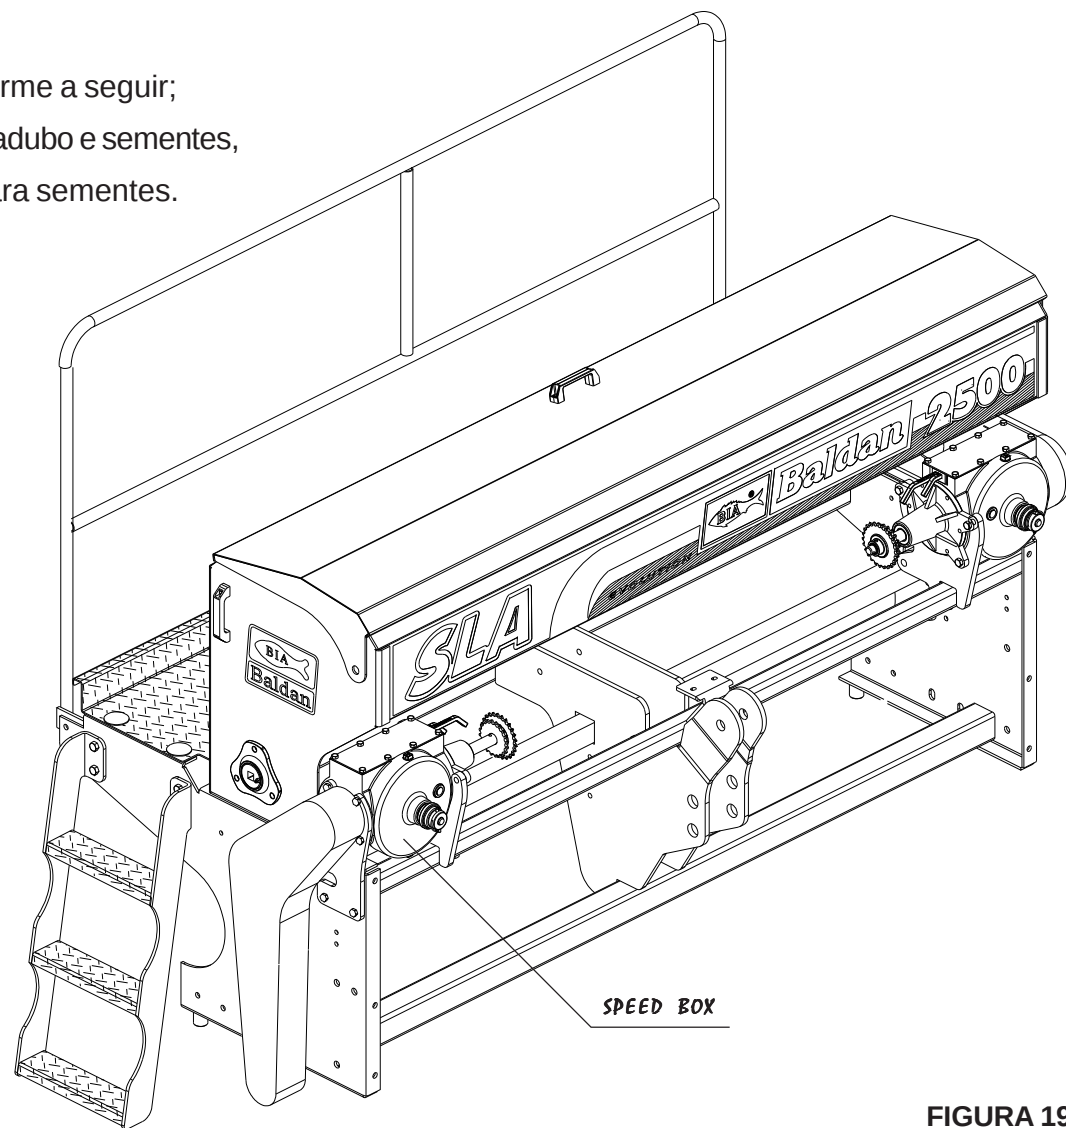

FIGURA 19
- SLA *Speed Box Air* 2500. (FIGURA 19)